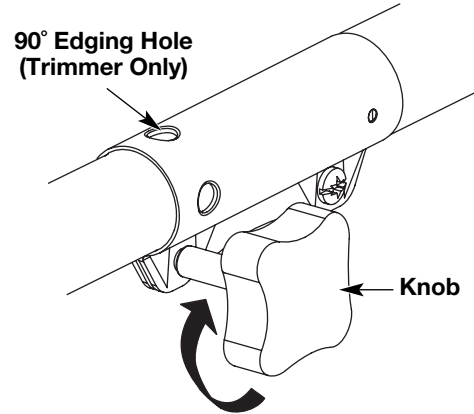

Fig. 13
3. Turn the knob clockwise to tighten (Fig. 13).
For edging (when using the line head cutting attachment with EZ-Link™ models), lock the release button of the cutting attachment into the **90° edging hole** (Fig. 13).